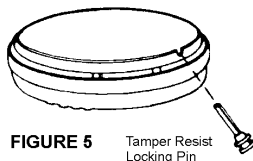

FIGURE 5 Tamper Resist Locking Pin
- 5.9 USING TAMPER RESIST LOCKING PIN: To make your smoke alarm somewhat tamper resistant, a locking pin has been provide in the bag with the screws and anchors. Using this pin will the alarm from the mounting plate. To use the pin, insert it into the hole in the side of the alarm after the alarm has been installed on the mounting plate (see Figure 5).